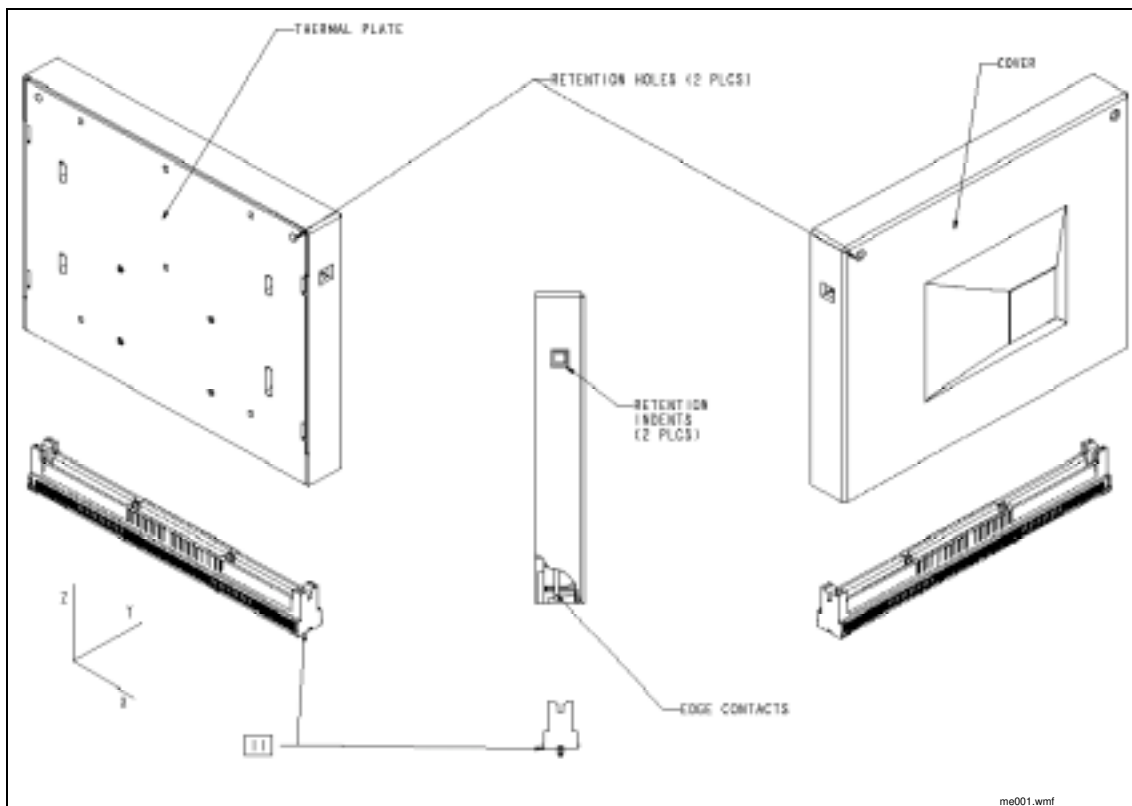
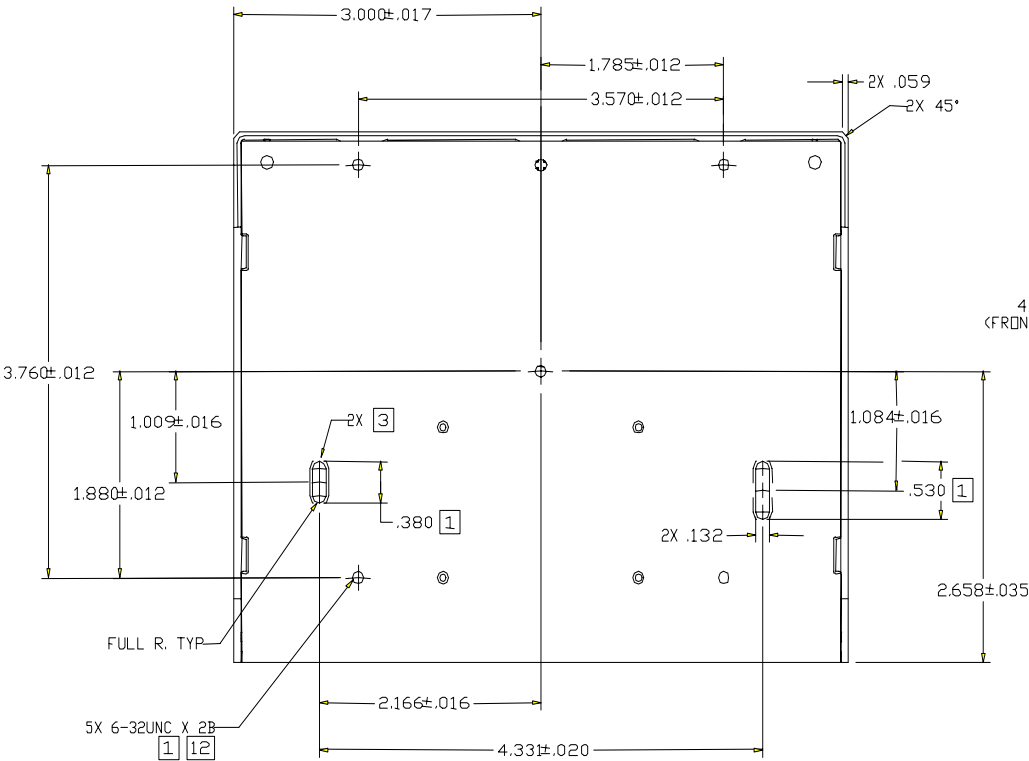

Figure 22. Isometric View of S.E.C. Cartridge
Figure 23. S.E.C. Cartridge Cooling Solution Attach Details (Notes follow)
Figure 22 shows the thermal plate side view and the cover side view of the processor. Figure 23 shows the S.E.C. cartridge cooling solution attachment feature details on the thermal plate and depict package form factor dimensions and retention enabling features of the S.E.C. cartridge. The processor edge connector defined in this document is referred to as "SC330.1". This connector definition is mechanically the same as the existing SC 300 (formerly Slot 2). See the SC330 connector specifications for further details on the edge connector.
12. All dimensions in inches for figures 23 thru 28.
5. Retention devices for this cartridge must accommodate this cartridge "Float" relative to connector, without preload to the edge contacts in "X" and "Y" axes. (See figure 22 for axis orientation)